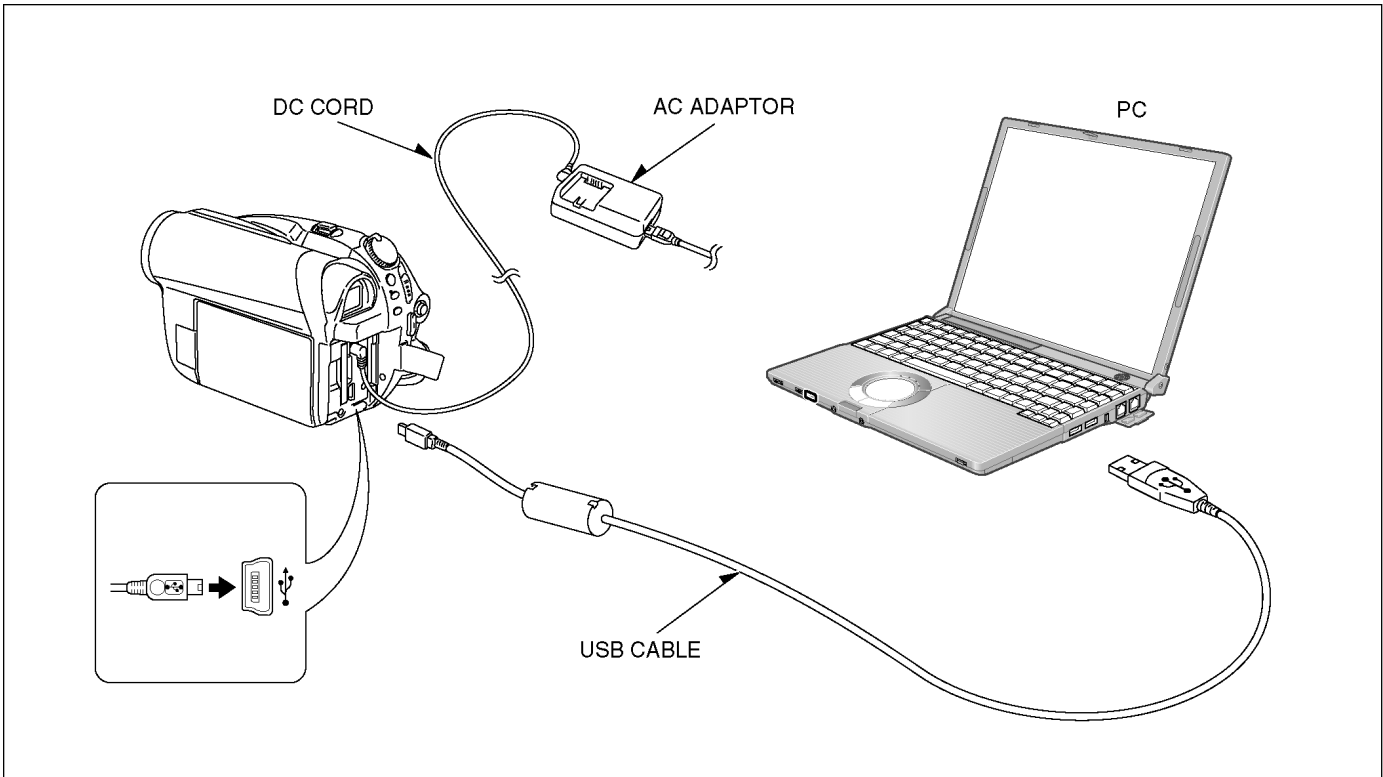

Fig. E1
- Connect the PC and DVD Video Camera as shown in Fig. E1 and E2.